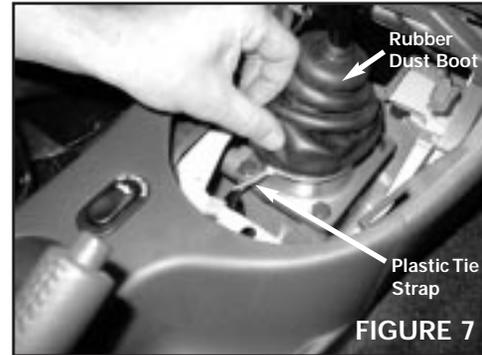

FIGURE 7
- Slide rubber boot, supplied, over shifter stick and down over the aluminum stop collar. Secure at bottom using supplied plastic tie strap. (Refer to Fig. 7)